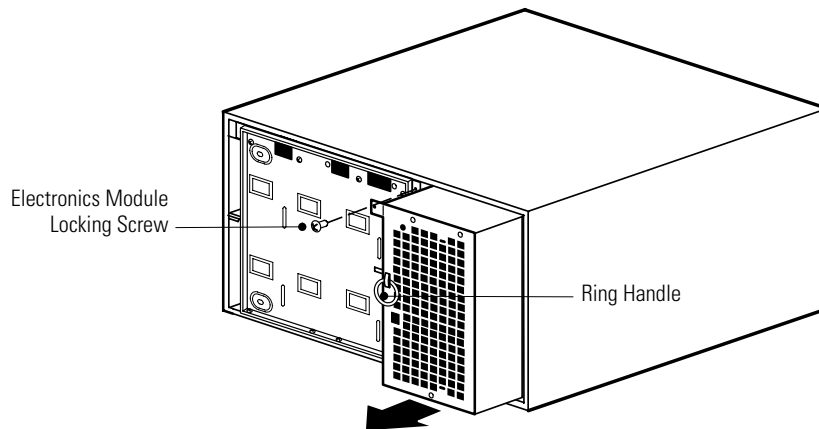

Figure 21. Removing the Electronics Module
10. Remove the electronics module and set it aside (see Figure 21):
17. Reinstall the electronics module locking screw (see Figure 21 on page 39).